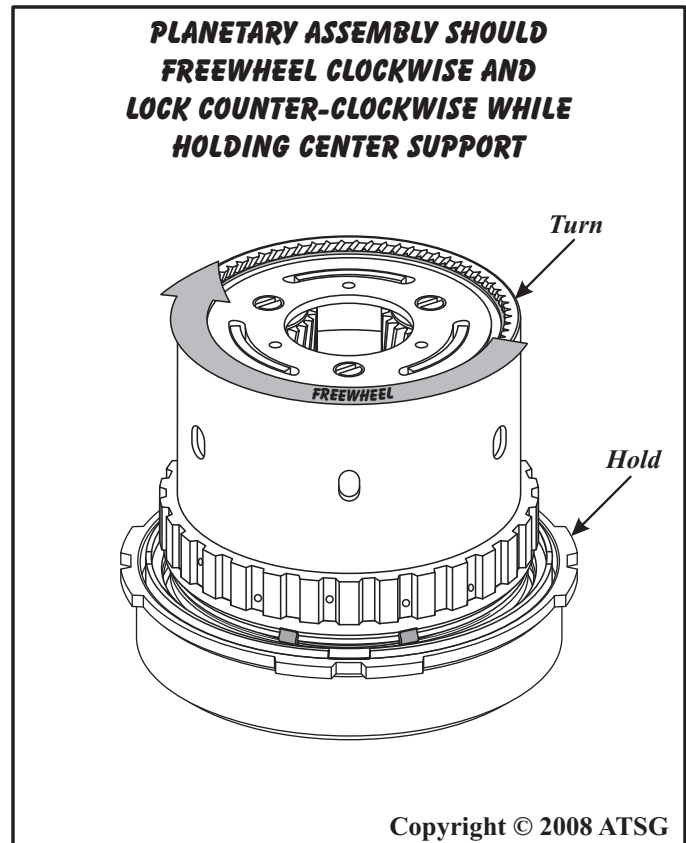

Figure 157
2. The planetary assembly should freewheel in a clockwise direction & lock counter-clockwise, as shown in Figure 157, if the low sprag is correctly assembled.